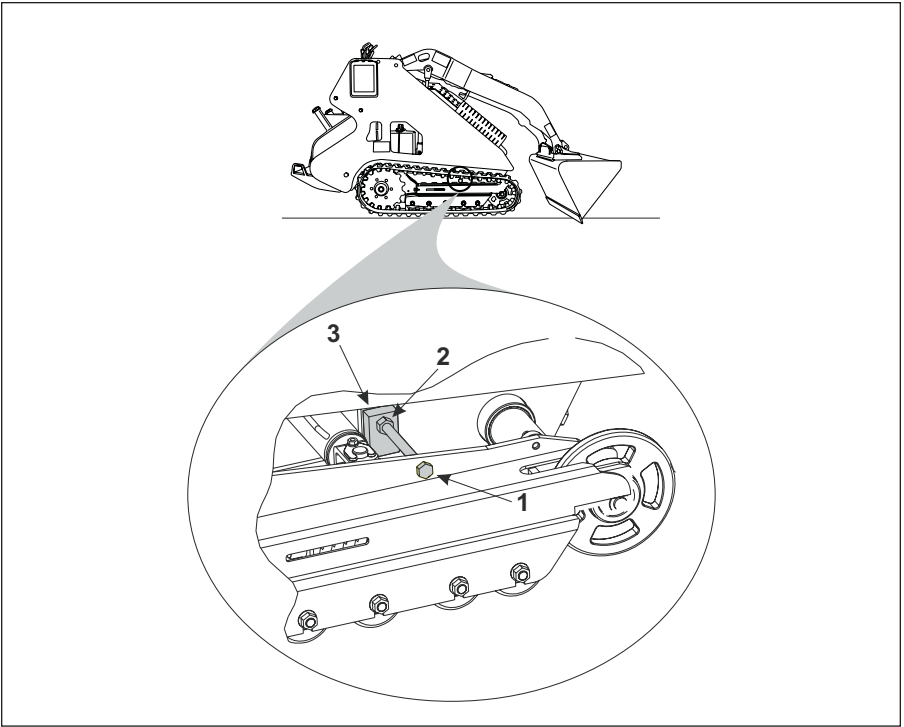

Figure 3-8 Track Widening Stop Bolts
14. Inspect the Track Widening Stop Bolts, one for each track assembly, (Item 1, **Figure 3-8**) for:
- Check the widening bolt lock nut (Item 2, **Figure 3-8**) to make sure that it is tight against the mounting block (Item 3, **Figure 3-8**).